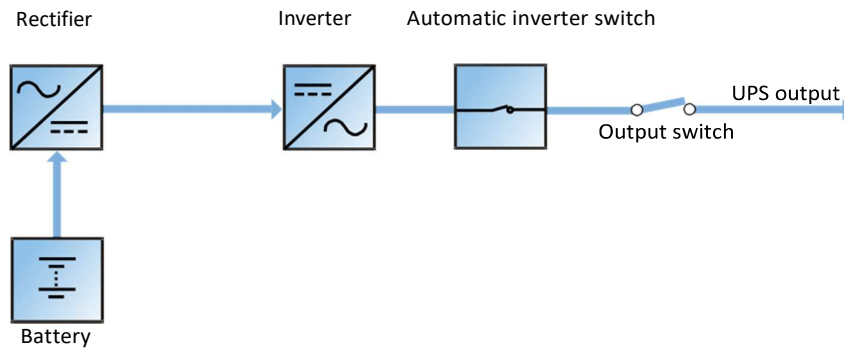

Figure 1-4 Battery operating mode line diagram
The operating principle of the UPS is shown in the figure 1-4.
Figure 1.4 b (3X3 UPS with Input Transformer)
2. When the mains is normal, the rectifier will start, and the charger will charge the battery string. Before turning on the UPS, the output voltage is bypass voltage, and the mains supplies power to the load through the bypass. After turning on the UPS, the electronic transfer switch connects the inverter output to the load, and the mains supplies DC power to the inverter through the rectifier/PFC circuit. The inverter then converts DC power into pure sine wave AC power and supplies the AC power to the load through electronic transfer switch. Isolation Transformer is connected at the input side for 3X3 requirement. Refer figure 1.4 for the position of transformer in case of Input Isolation.
As shown in Figure 1-4, the operating mode where the battery provides the backup power supply to the loads through the rectifier and inverter is called battery mode. In the event of a mains failure, the system will transfer automatically to battery mode with no interruption in the power supply to the load. When the mains power supply is restored, the system will re-transfer automatically to normal operating mode without any manual intervention, and with no interruption in the power supply to the load.